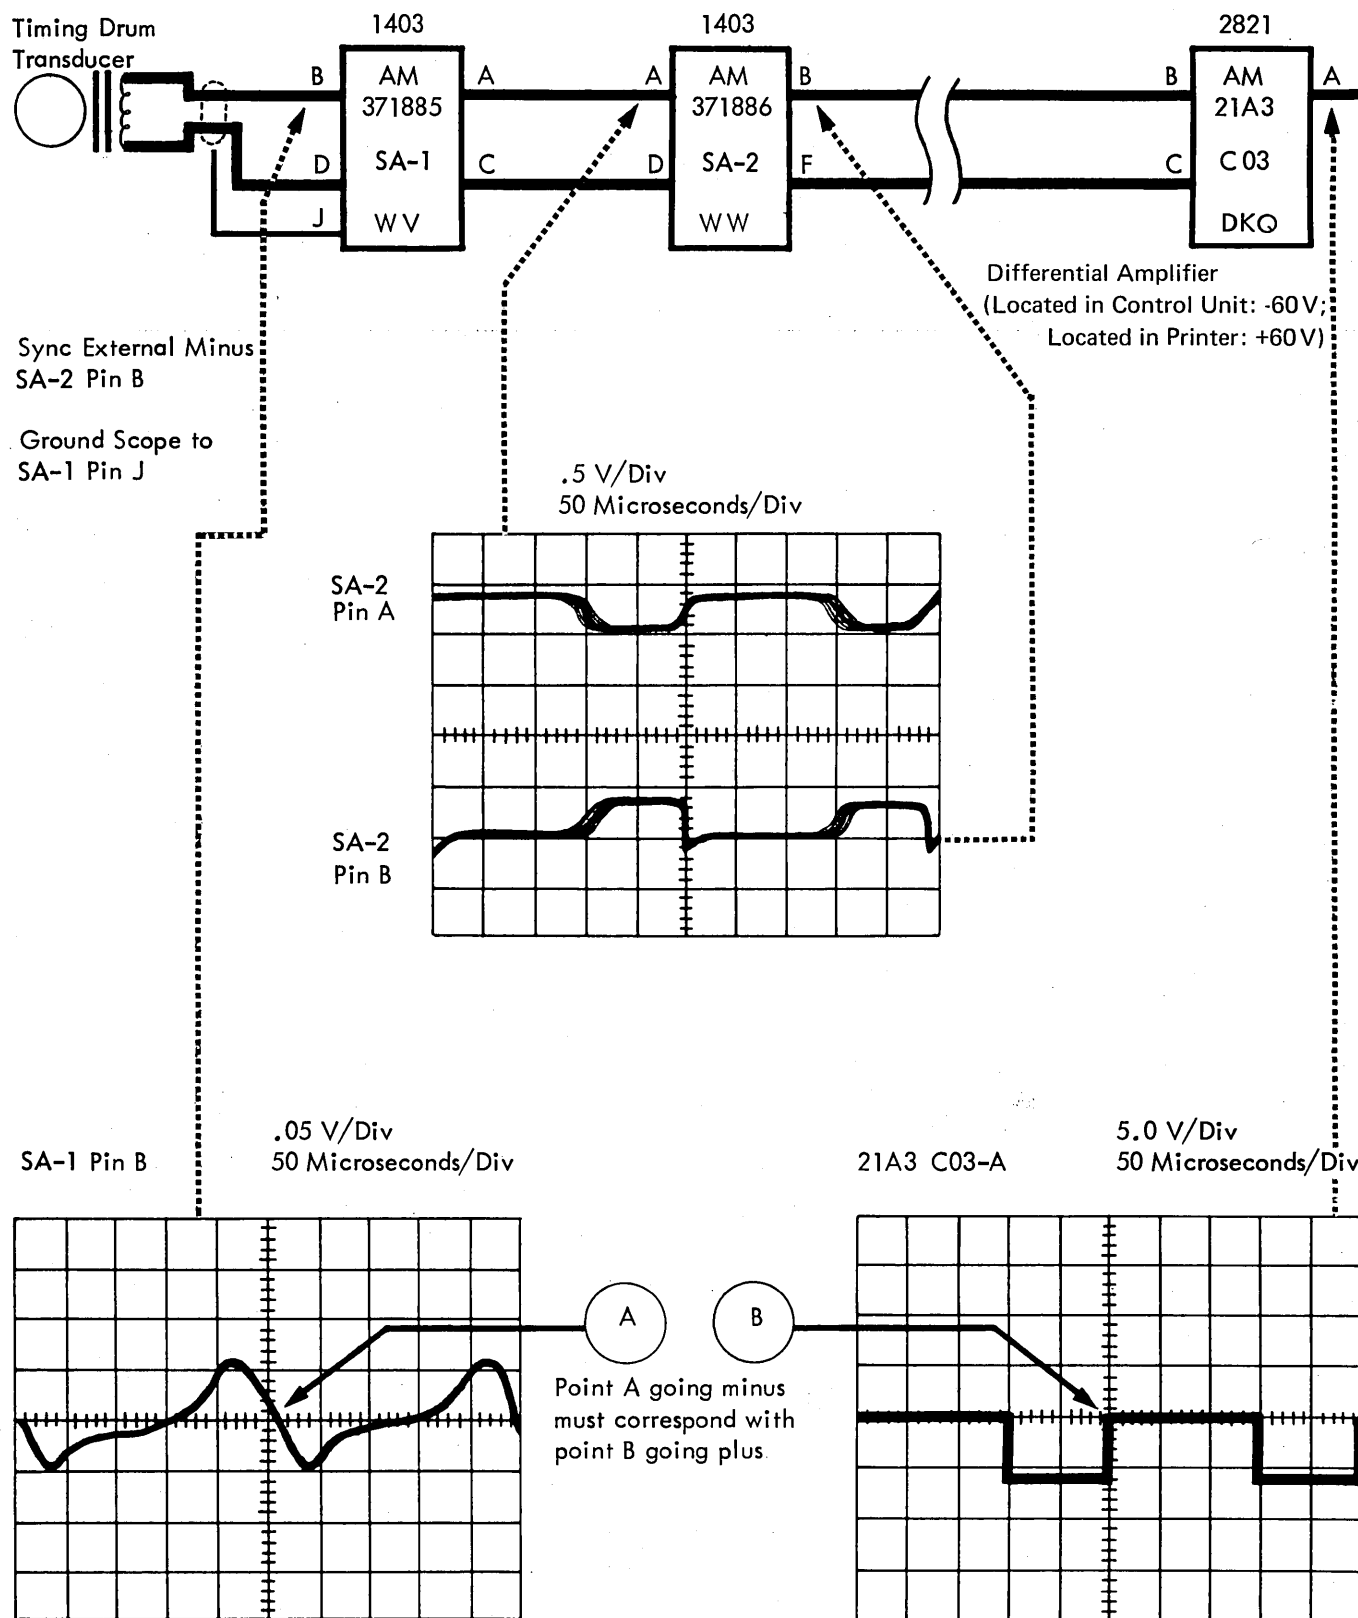

Figure 1-71. Drum Transducer Timing Points
1. The amplitude of the transducer output (Figure 1-71) is critical and must be checked correctly. Check for 50 to 150 mV with the scope vertical input to pin B or D of SA-1 and the scope ground to pin J. If 50 to 75 mV are noted, the clearance of the transducer to the drum should be checked. If clearance is .001 in. (0,03 mm) or less, the transducer should be replaced. The output of transducer should be directly proportional to the distance the transducer is from the drum; that is, minimum clearance of .001 in. (0,03 mm) should result in a transducer output somewhere in the upper range (100-150 mV), and a maximum clearance of .002 in. (0,05 mm) should result in a transducer output somewhere in the lower range (50-100 mV).